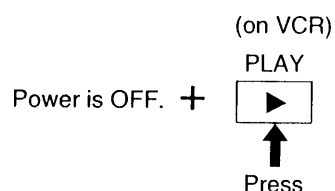

Fig. 20 - Simplified Fault Finding Data
(Figs. 20, 21, 22)
1. With the power turned off, press the *Play* button on the VCR for more than three (3) seconds (Fig. 20).